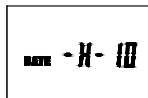

Fig. 5
8. Press the **SETUP** button a fifth time (see Fig. 5).
9. While viewing the display (see Fig. 5), press the **LEVEL** button to select the desired month of the year. Then press the **HOLD** button to save this month.